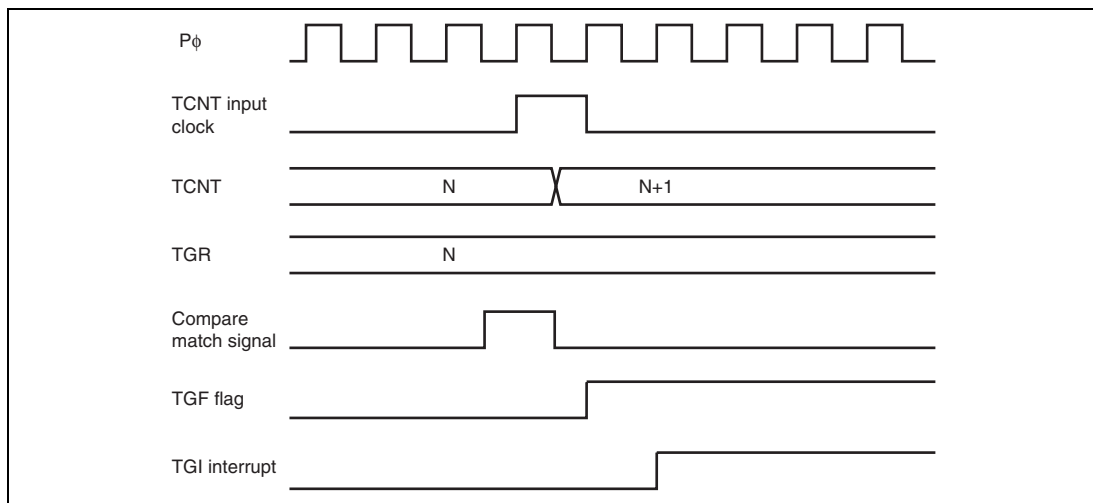

**Figure 11.64 TGI Interrupt Timing (Compare Match)**
**TGF Flag Setting Timing in Case of Compare Match:** Figure 11.64 shows the timing for setting of the TGF flag in TSR on compare match, and TGI interrupt request signal timing.